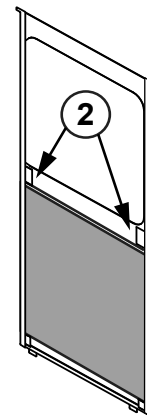

Figure 17.5
3. Stack non-combustible material tiles in tile frame as shown in **Figure 17.2** by sliding first tile in, bend tabs on back side **Figure 17.5**, then slide last tile in position so that it rests on tabs.